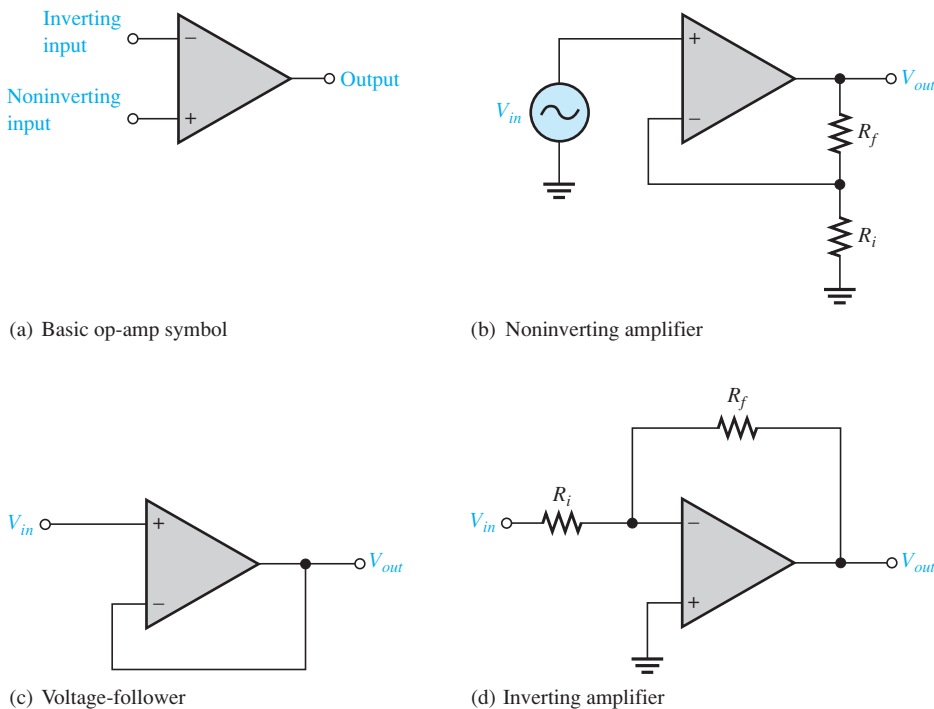

FIGURE 6–37
- Figure 6–37 shows the op-amp symbol and the three basic op-amp configurations.